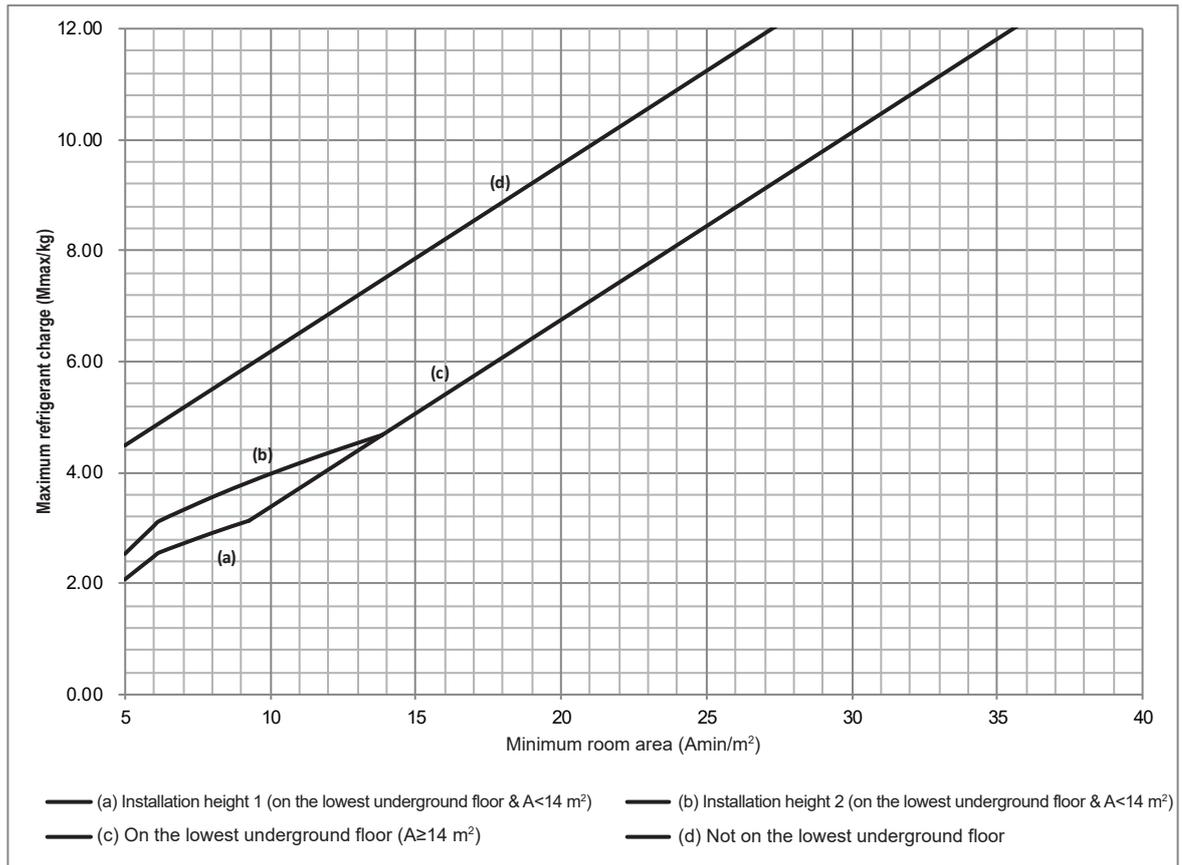

Figure 1-5
If the system is equipped with a factory refrigerant shut-off device on the outdoor unit main pipe and an alarm device connected to the indoor unit, further rules regarding refrigerant charge and room area can be followed. Figure 1-5 and Table 1-5 is suitable for 18kW.
- If the system applies to case (d) in Figure 1-5 and Table 1-5, the minimum room area for a 18 kW outdoor unit must not be less than 10 m².